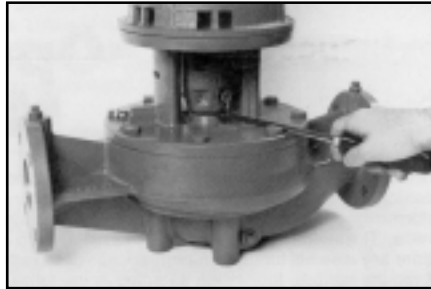

Figure 5
- Using a large screwdriver, raise the pump shaft by placing the tip of the screwdriver under the coupling and carefully elevating the coupling to its highest point. Note: The shaft can only be raised approximately 0.20 inches (5mm). See Figure 5.